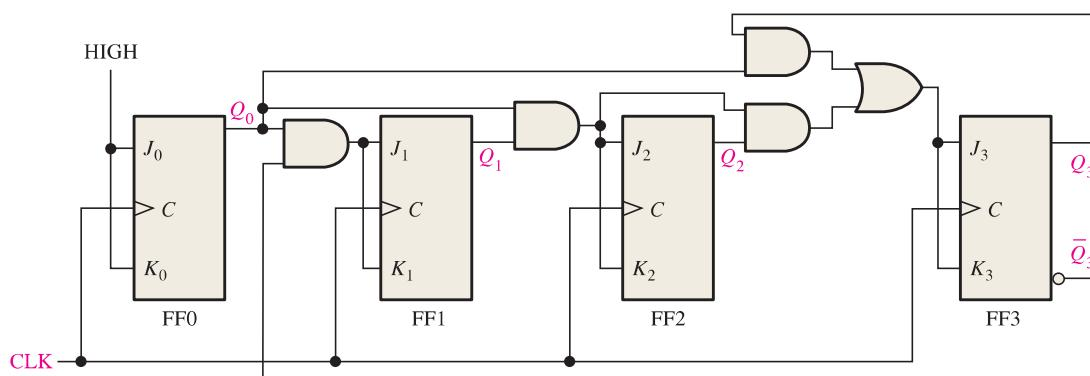

FIGURE 9–68
10. The waveforms in Figure 9–69 are applied to the count enable, clear, and clock inputs as indicated. Show the counter output waveforms in proper relation to these inputs. The clear input is asynchronous.